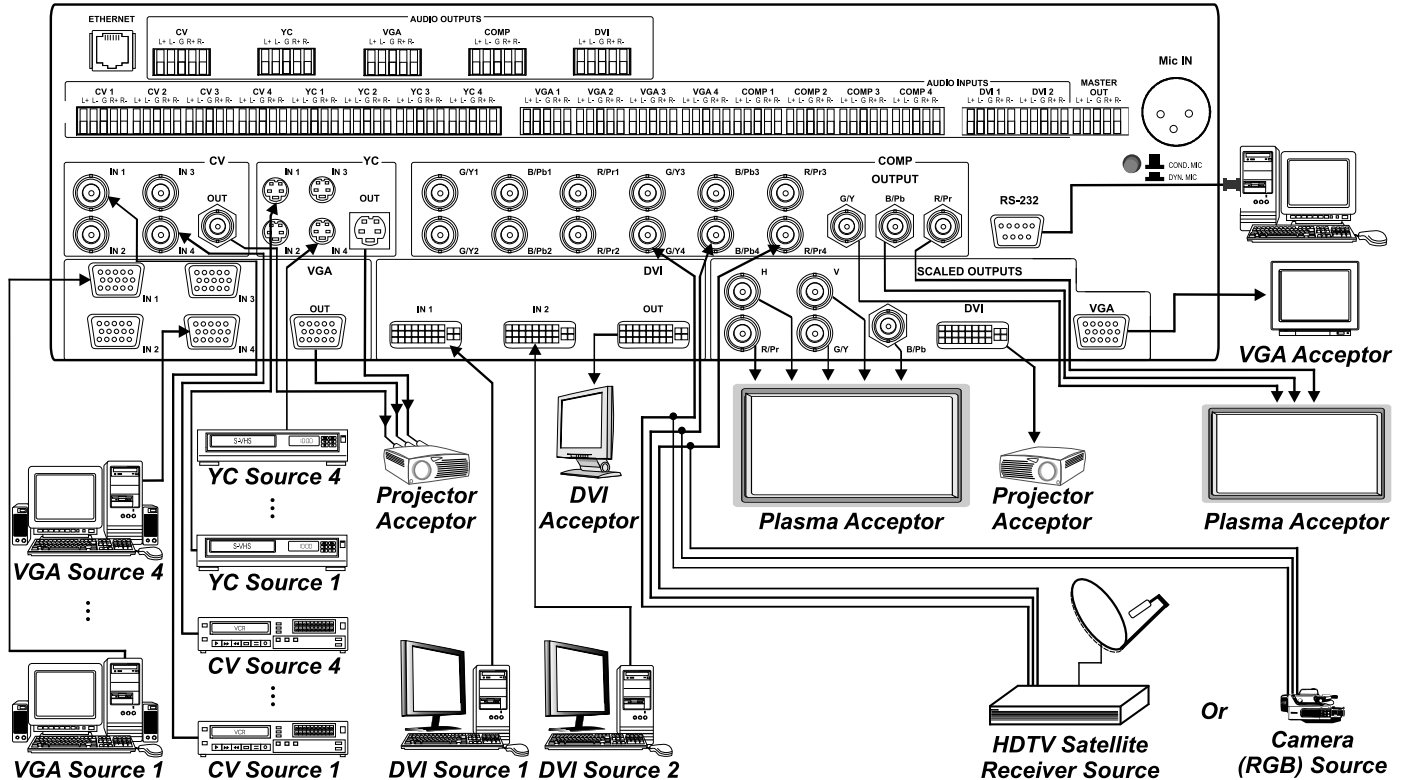

Figure 3: Connecting the VP-725DSA Presentation Switcher / Scaler
To connect the **VP-725DSA**, connect the following1 to the rear panel, as the example in Figure 3 illustrates:
- Up to four component video (sometimes called YUV, or Y, B-Y, R-Y, or Y, Pb/Cb, Pr/Cr) sources or 4 RGB sources to the four sets of 3 BNC connectors, G/Y, B/Pb, and R/Pr. The example in Figure 3 illustrates an HDTV satellite receiver or an RGB camera connected to COMP Source 4
2. Connect one or more of the following balanced stereo audio sources (not illustrated in Figure 3). In particular, the audio of:
3. Connect a microphone to the Mic IN XLR connector1, and push in or release the Con / Dyn Switch as appropriate (see item 12 in Table 2).
8. Connect the power cord2 (not illustrated in Figure 3).
1 Not illustrated in Figure 3